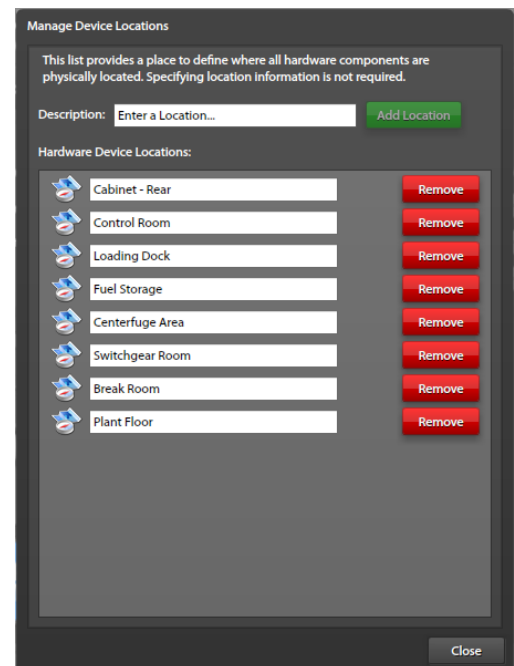

Figure 15. Manage Device Locations
1. Click the EDIT LOCATIONS button on the SYSTEM PROPERTIES screen to open the MANAGE DEVICE LOCATIONS screen (see Figure 15).